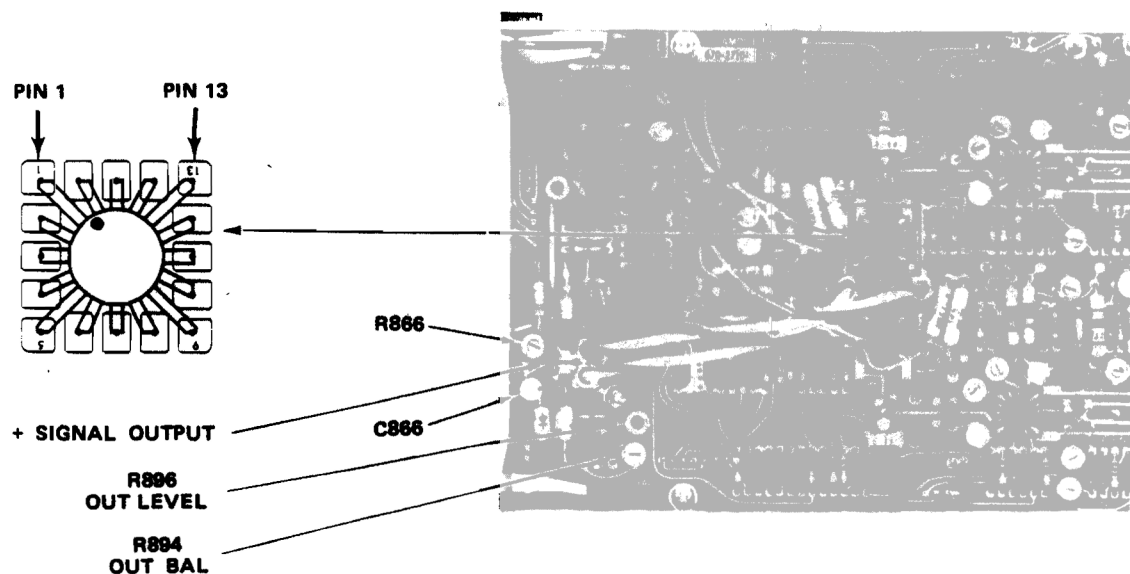

Fig. 5-2. Location of pins 1 and 13, U1550.
- b. Set the CH 1 POSITION for zero volts between pins 1 and 13 of U1550 (see Fig. 5-2).
- a. ADJUST—The Output Level (R896) for zero volts from the +Signal Output (see Fig. 5-2) to ground.